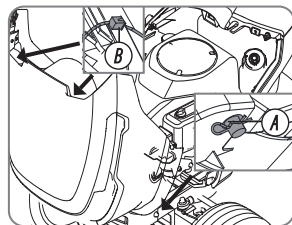

Fig. 38
2. Disconnect the headlight wire connector (Fig. 38, B) (there are two places; press the trapezoidal part on the surface of the connector and apply a little force to disconnect it);
3. Remove the retaining pins on both sides of the lawn mower, first pull out the R-type pin, then remove the cotter pin (Fig. 38, A);
2. Disconnect the wiring connectors (Fig. 38, B) for the left and right headlights.